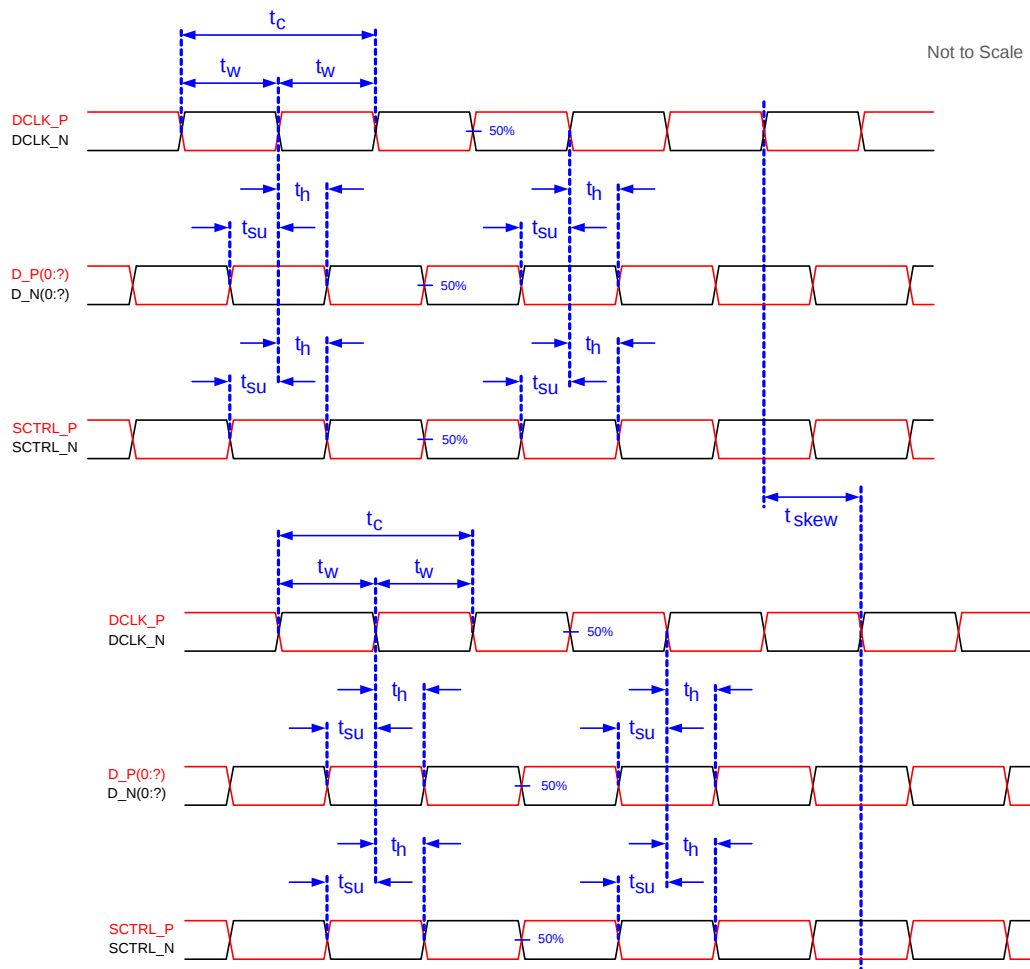

Figure 6. Timing Requirements
(10) See LVDS Timing Requirements in Timing Requirements and Figure 6.